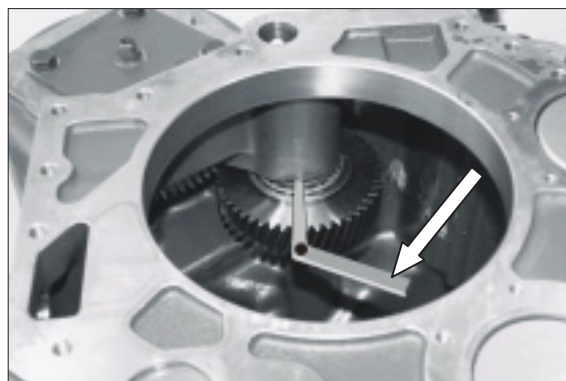

Figure 123
(14) Adjust the axial play-intermediate gear bearing max. 0.1 mm (figure 123~124)